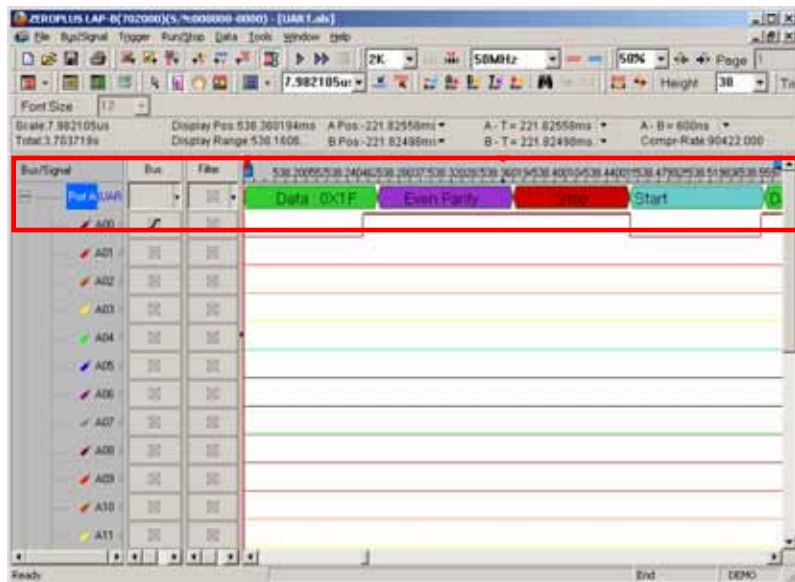

Fig 4-78-Waveform Analysis
Step 6. Click **Run** to acquire the UART signal from the tested UART circuit. Refer to Fig 4-78.